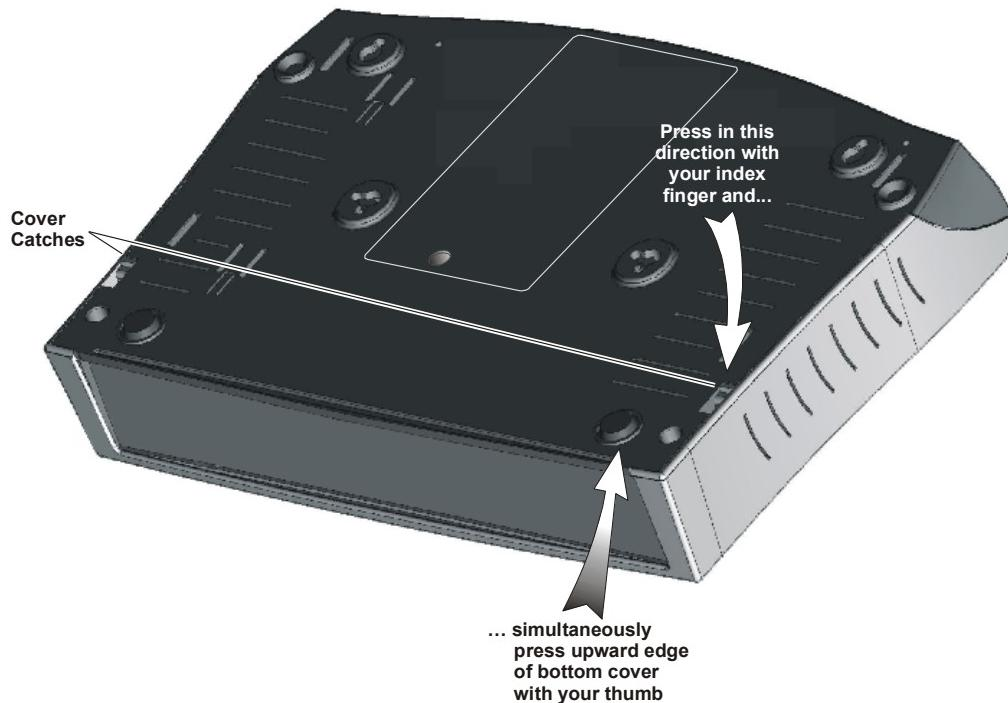

Figure 2-4. Releasing FCD-E1LC Cover Catches
2. Refer to *Figure 2-4* and release the cover catches as illustrated in the figure. If pushing the catches with the nails of your fingers is difficult, you may use a narrow-blade screwdriver.